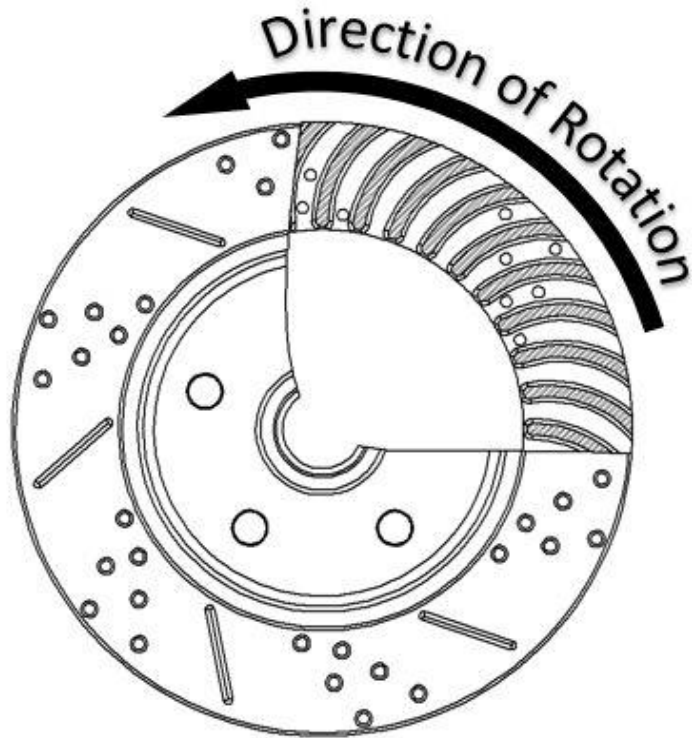

Figure 5 – Rotor Orientation
8. Install the rotor onto the axle flange. Verify that the rotor goes all the way against the axle flange. **TIP:** To make caliper installation easier, thread a couple of flat washers and nuts against the rotor to act as a lug nut and hold everything in place. **IMPORTANT:** If using slotted and drilled rotors, pay close attention to Figure 5 on the next page for proper rotor placement on the driver and passenger side.